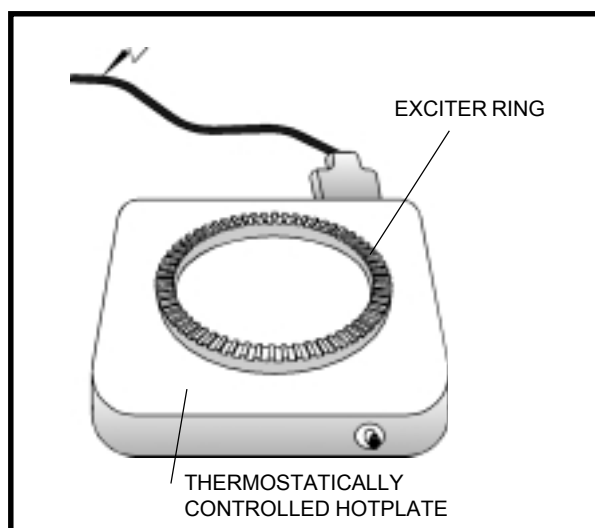

Fig 2.3. HEATING THE EXCITER RING
4. Replace the exciter by heating it evenly to a minimum temperature of 120 degrees Celsius. This may be achieved by using a hotplate or oven which is thermostatically controlled. (see Fig 2.3)